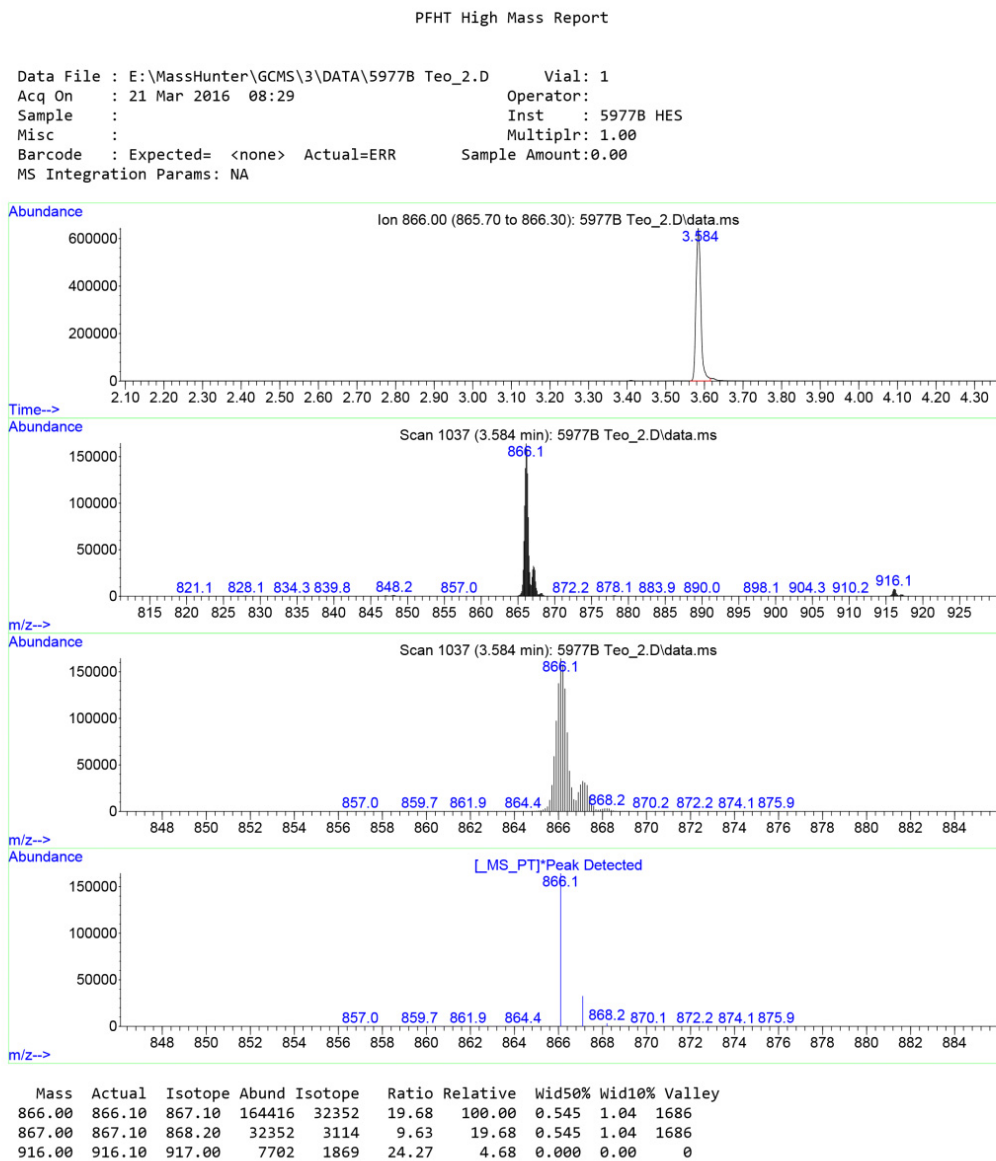

Figure 34. PFHT high mass report
- 7 The run is completed, and results are printed within 5 minutes. (See **Figure 34** on page 106.)